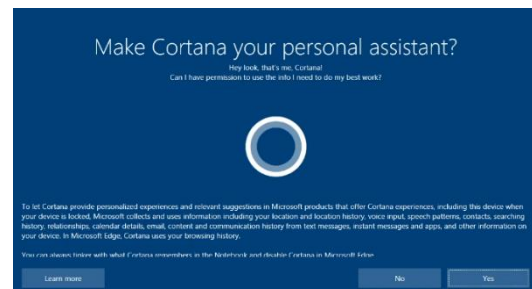

FIGURE 90: TESTOUT CORP. (2020, JANUARY 14). TESTOUT PC PRO (SECTION 10.3.4). RETRIEVED FROM [HTTP://WWW.TESTOUT.COM](http://www.testout.com)
11.3.12. (See Fig. 90) On the next screen, you will be asked if you want to activate Cortana. Cortana is a voice-activated assistant on Windows. There is no microphone on this system yet, so click the No button. Cortana can also be configured after Windows Installation.